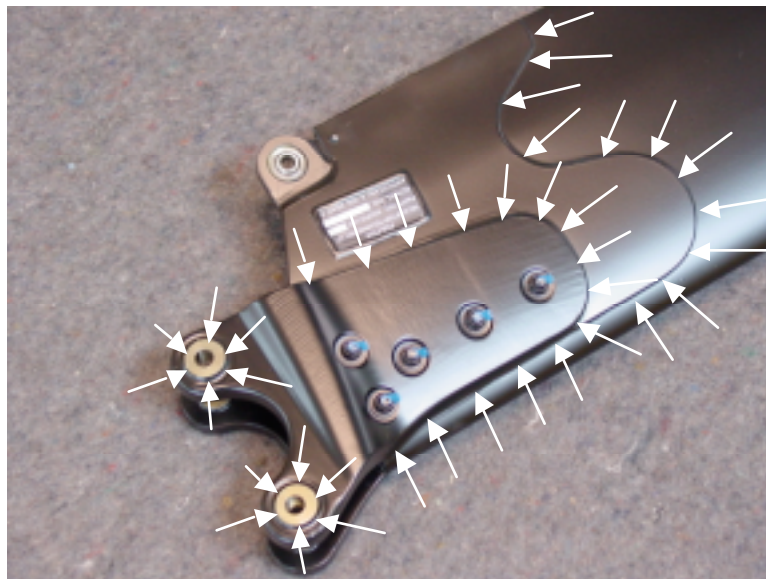
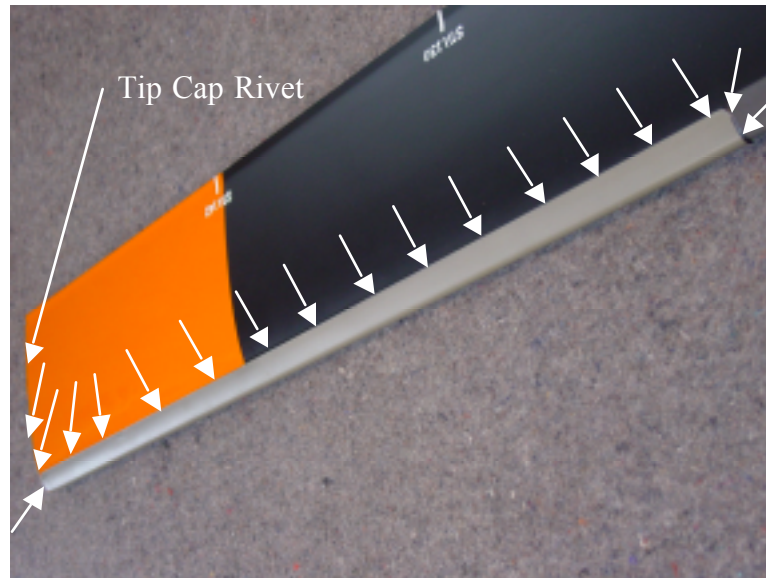

Figure 1 – Main Rotor Blade Root End Affected Areas (Bottom Side Shown – Same Applies to Top Side)
Figure 2 – Main Rotor Blade Tip End Affected Areas (Top Side Shown – Same Applies to Bottom Side)
- 2) Inspect areas as shown in Figure 1 and Figure 2 for Active Corrosion. Any evidence of corrosion in these areas is cause for scrapping of the blade.
- 3) If areas do not have Sealant in place, apply small bead of Sealant around peripheries (top and bottom surfaces) of Root Fitting Bushings (inside and outside), around peripheries of Root Fitting-to-Doubler Bond-Lines, around peripheries of Doubler-to-Skin Bond-Lines, around Abrasion Strip-to-Skin Bond Lines, and around the Tip End of the Blade as shown in Figure 1 and Figure 2 below. Ensure that the center portion of each of the Tip Cap Rivets (2 Places, Top and Bottom Side of Blade – Figure 2) are sealed to prevent water/moisture from entering the blade.